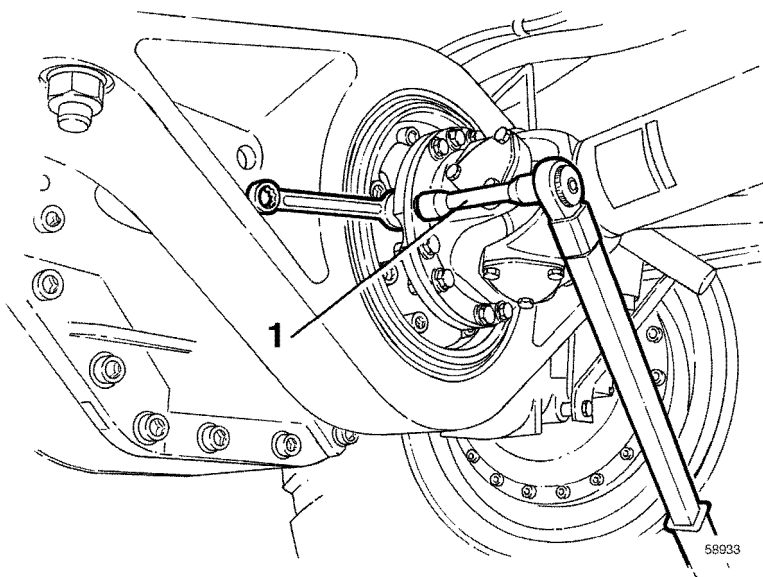

Figure 1
- Connect the propeller shaft to the rear axle, see Figure 1.